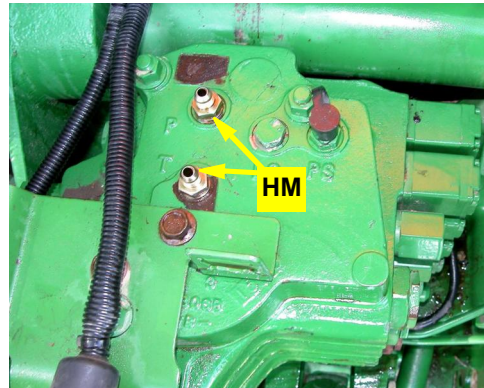

Figure 7a: Fittings installed at P and T test ports (no Power Beyond)
a. Remove test port fittings from the ports labeled **P** and **T** on the top plate of the tractor hydraulic remote valves. Install adapter fittings **HM** in both ports (Figure 7a).